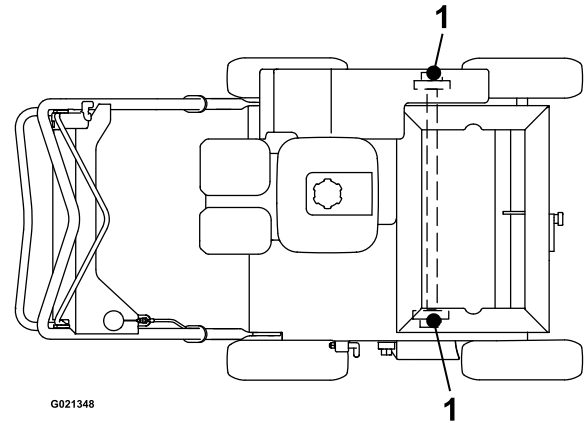

Figure 17
3. Lubricate the fittings (Figure 17) with 1 or 2 pumps of NLGI grade #2 multi-purpose grease.